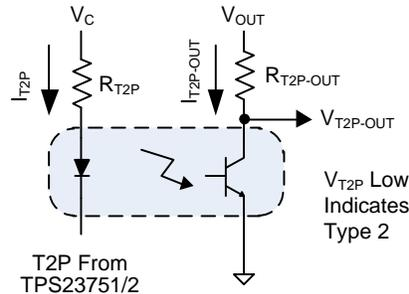

Figure 32. T2P Interface
- As shown in Figure 32, let  $V_C = 12\text{ V}$ ,  $V_{OUT} = 5\text{ V}$ ,  $R_{T2P-OUT} = 10\text{ k}\Omega$ ,  $V_{T2P} = 260\text{ mV}$ ,  $V_{T2P-OUT} = 400\text{ mV}$ .